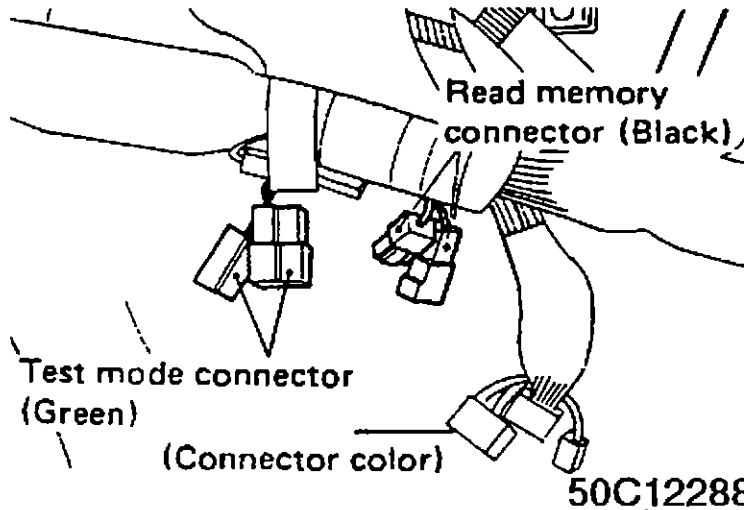

Fig. 1: Location of Read Memory & Test Mode Connectors
1) Enter specific test mode by connecting or disconnecting read memory and/or test mode connectors as shown in RELATIONSHIP BETWEEN MODES & CONNECTORS table. Connectors are located behind left side of dash. See Fig. 1.